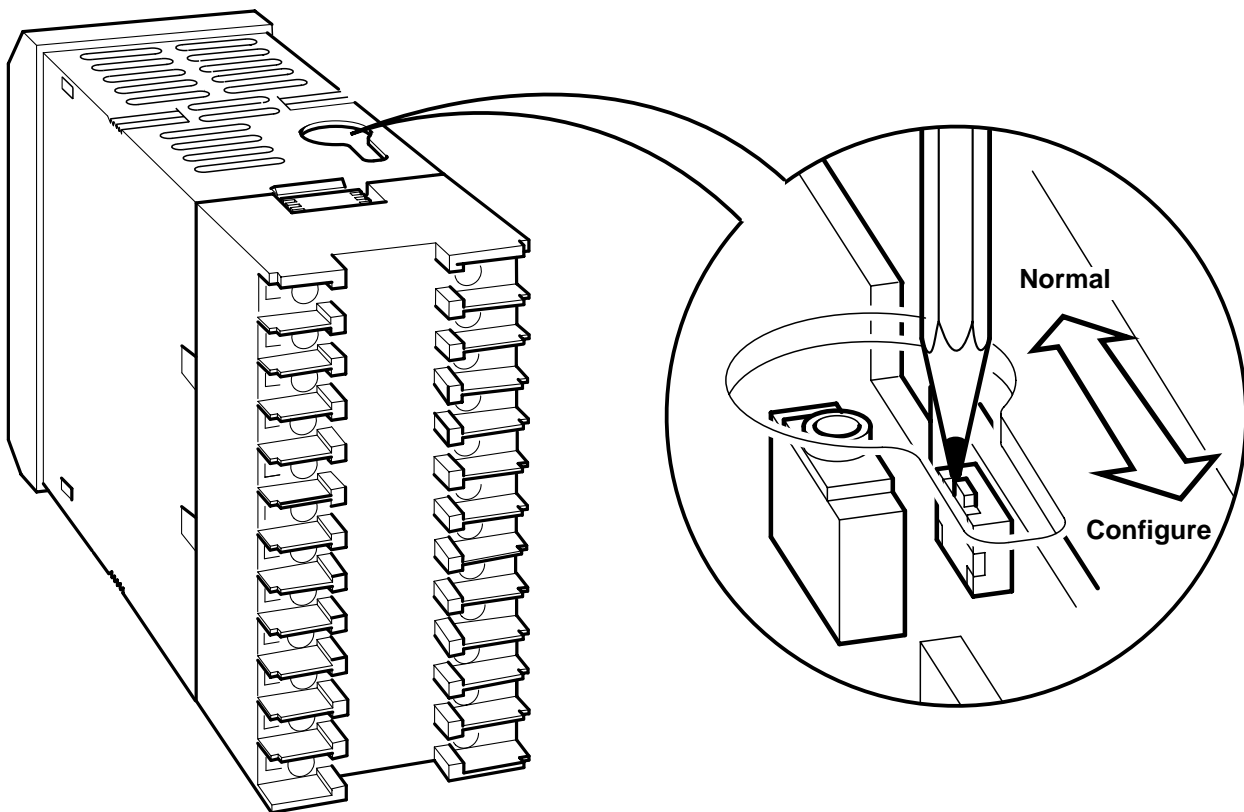

Fig. 4.1 Accessing the Configuration Mode (Config/Normal Switch)
4.2 Accessing the Configuration Mode – Fig. 4.1